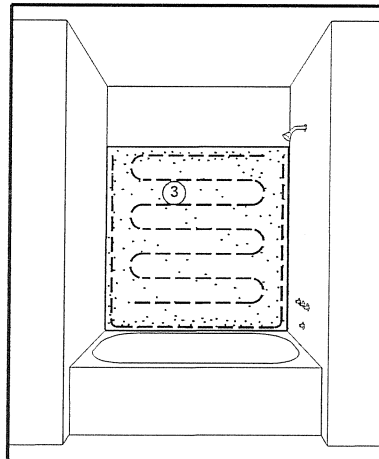

Fig. 6
Step 6. For single panel back walls. Refer to Figures 6 and 7. Dry fit back panel (3) in position centered on the back wall to check fit. The panel should fit within 1/4" from the side walls. If necessary grind to fit. A belt sander with a 36 grit belt works well. Clean edges with IPA and wipe dust from back of panel. Remove panel. With a caulking gun, apply a heavy bead (min 1/4") of adhesive to the wall (not the panel) 2" in from the side and bottom edges and on 8" centers in a zigzag pattern as shown in Figure 6.. Use approximately two full tubes. Place panel into position and press panel firmly into place. Panel should be positioned 1/16th inch above the tub deck surface